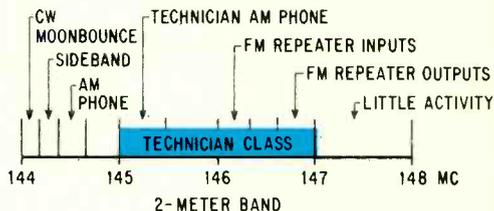

Fig. 1—Spectrum chart of 2-meter band shows ham activity at various frequencies. Technician Class licensees aren't permitted to operate above 147 mc.
must stay between 145 and 147 mc. The AM Techs usually cluster around the low end of 145 mc (see Fig. 1). The General, Advanced and Extra Class amateurs can use the entire 144-148 mc band, but they tend to congregate well below 145 mc and many make it plain that they never even listen above 145. Such is our world.
**DX Activity.** The low end of the two-meter band, from 144.0 to 144.1 mc, is used for CW only (see Fig. 1) and it's here that most DX contacts are made. Of course, DXing can be relative—while Ohio may be exciting to a 2-meter operator from New York it could be a bore to a 20-meter ham who gets his jollies working a ship wrecked blond sitting on a wet rock (in a bikini) at low tide somewhere in the Indian Ocean.